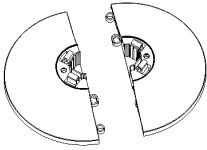

Fig.1
- a. Assemble the rear and front sockets (see Fig. 1).